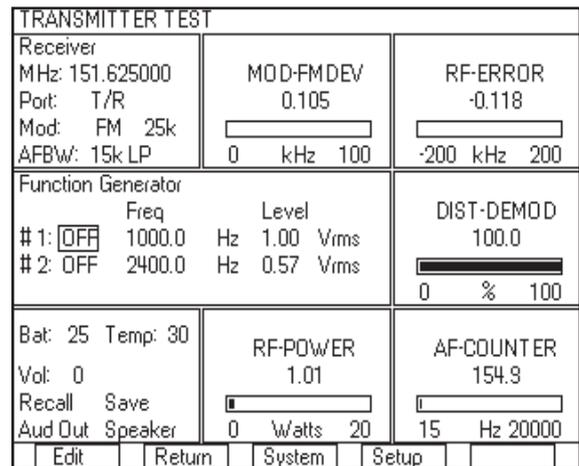

Figure 13 - Measuring power of an FM transmitter
28. Turn on the transmitter of the radio under test and wait a few seconds for the RF Power meter on the 3500 to settle. See Figure 13.